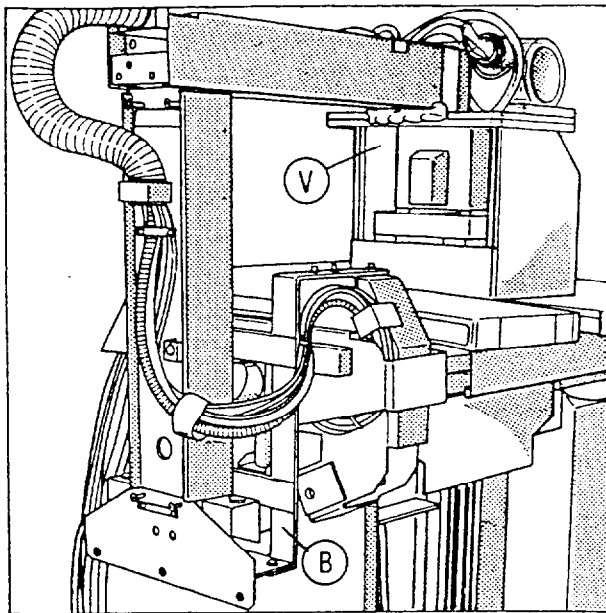

Fig. 10
- ◀ Remove the transport safety bracket (B/Fig.10) from the tube assembly.
- ◀ Loosen the tube assy support arm from the transport safety device (V/Fig.10).